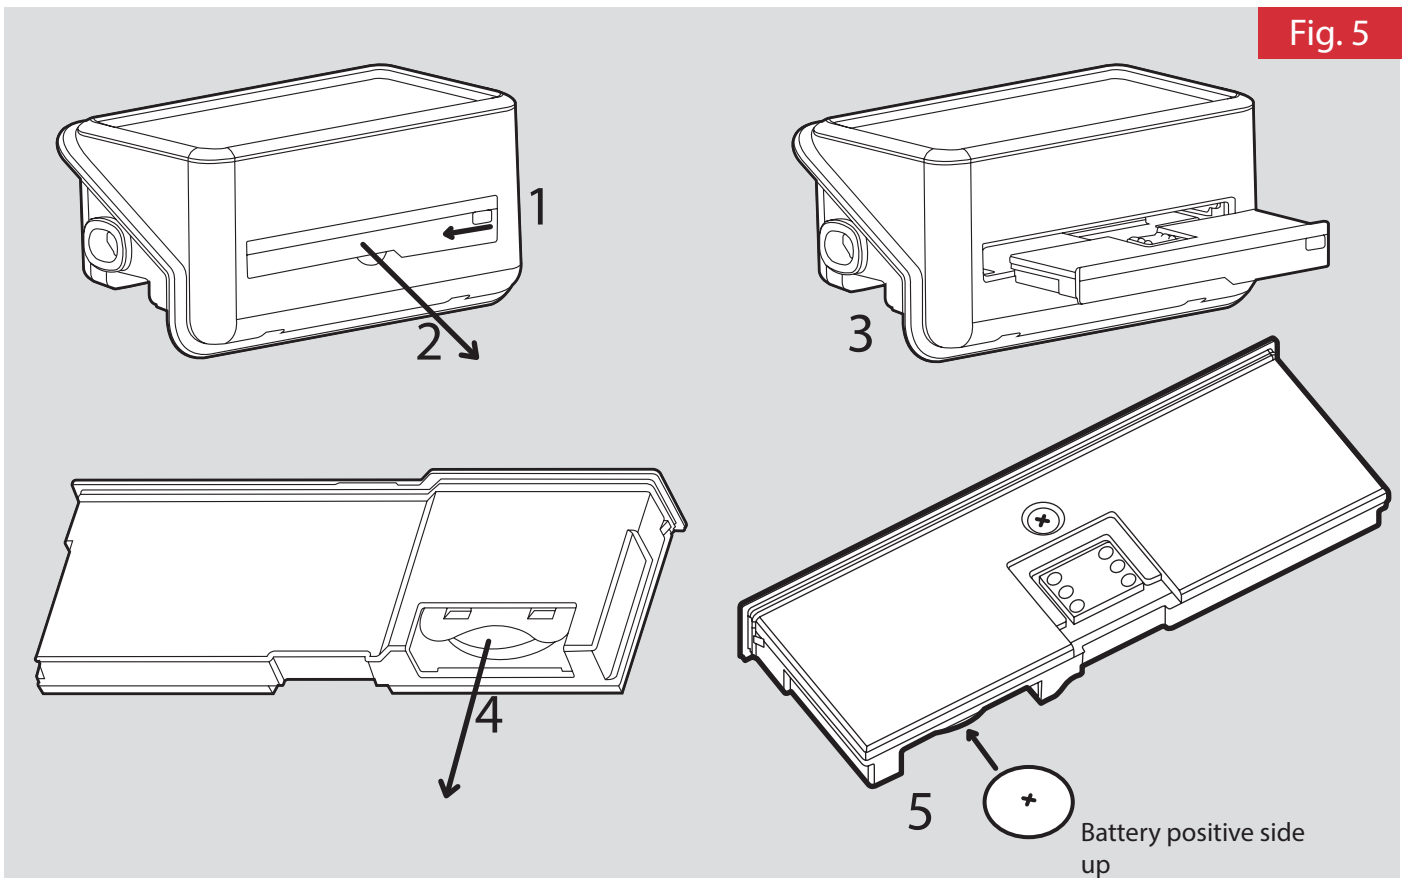

Fig. 5
1. Unhinge the heater from the wall using the clips shown in Fig. 2 (page 7) and locate the battery module, indicated in Fig. 5
2. Slide the catch and pull module from the controls (See Fig 5; 1-3).